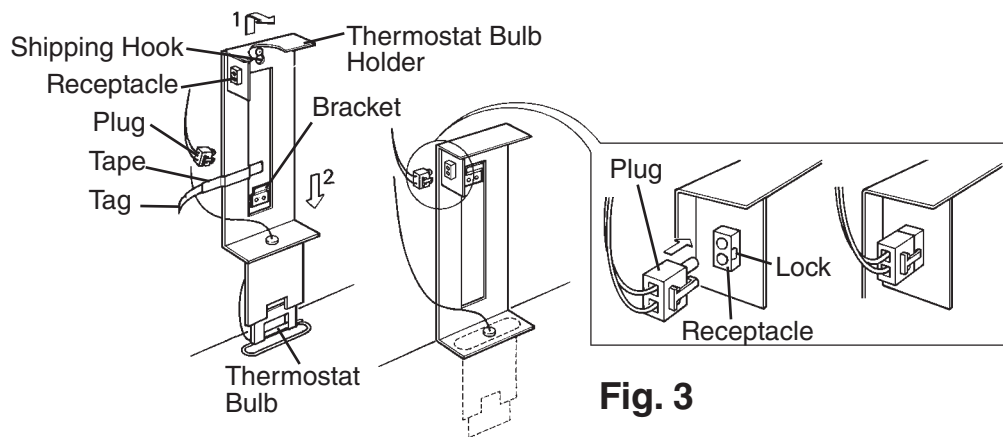

Fig. 3
- 6) Install the bin control thermostat assembly as follows. See Fig. 3.